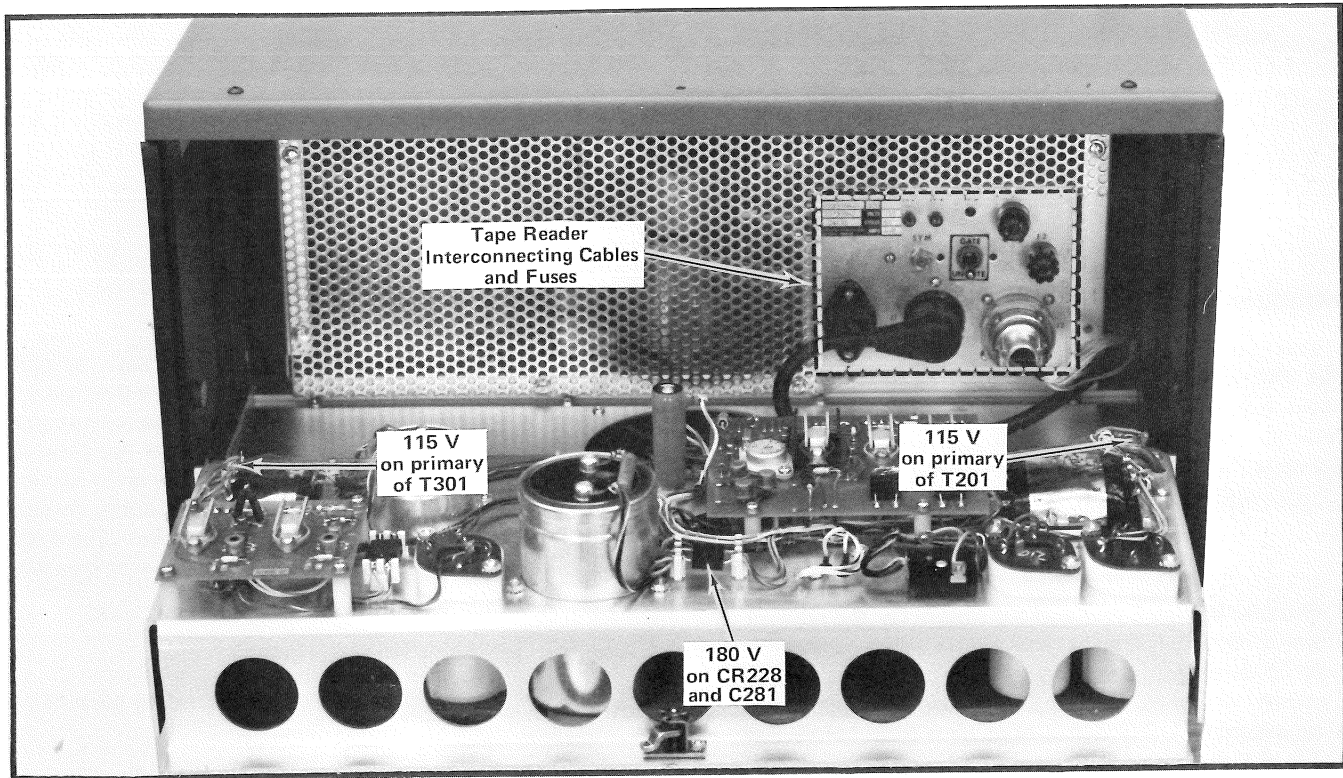

Fig. 4-2. Top-rear view showing power supply chassis and Tape Reader interconnecting cables.
*The line voltage input and the supply for the readout lamps exceed 100 volts, and are therefore considered to be dangerous. Do not put hands or tools inside the cabinet unless the danger points have been identified, or adequate safety precautions have been taken. See Fig. 4-1 and Fig. 4-2.*
To remove the Tape Reader, it is necessary to first unplug the interconnecting cables that attach to the back of the Tape Reader. See Fig. 4-2. To obtain access to the cable plugs, first turn off the power, then remove the top panel at the rear of the 1701/1702. Next, unlatch the quick-release screw fastener at the top center of the power supply chassis. Swing the power supply chassis out and down. The Tape Reader interconnecting cables and fuse can now be reached.